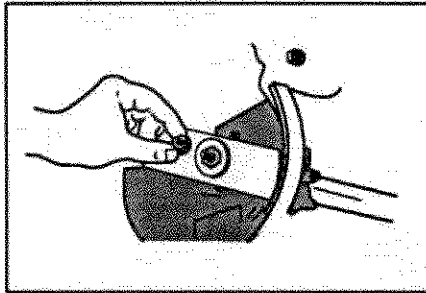

Fig. 11
4. If you have a torque wrench, tighten the lock nut to 225-250 in•lb (25.3-28.1 N•m), while holding the locking rod in the locking rod slot (Fig. 11).